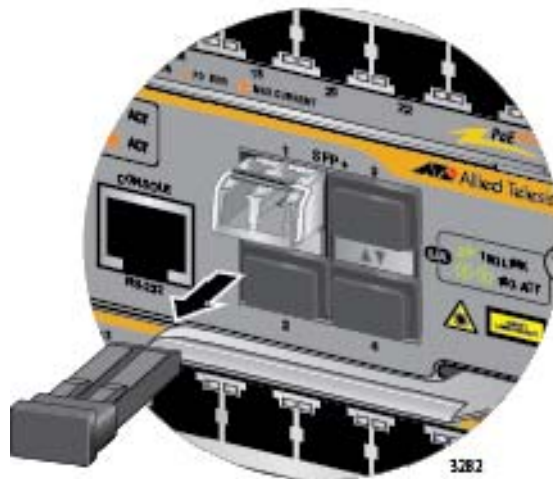

Figure 178. Removing the Dust Cover from a Stacking Transceiver
4. Remove the dust cover from the transceiver, as shown in Figure 178.